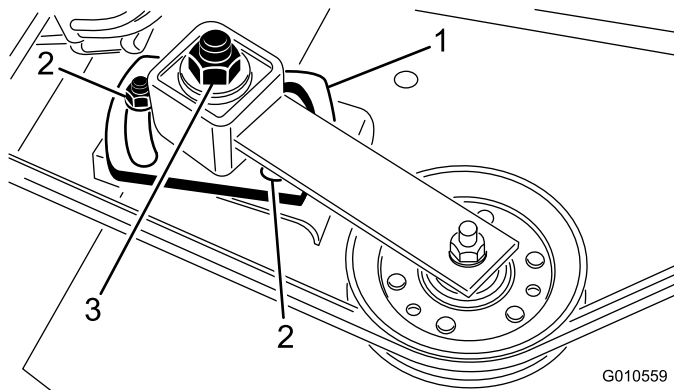

Figure 30
- Use a socket and torque wrench to tighten the idler adjusting nut to 47 to 54 N-m (35 to 40 ft-lb) (Figure 30).